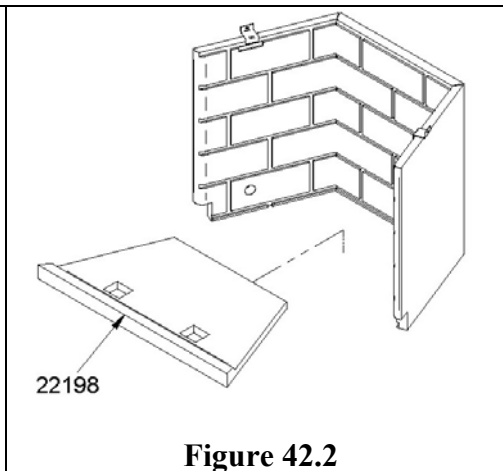

Figure 42.2
2. Remove the bottom refractory panel (22198). Figure 42.2